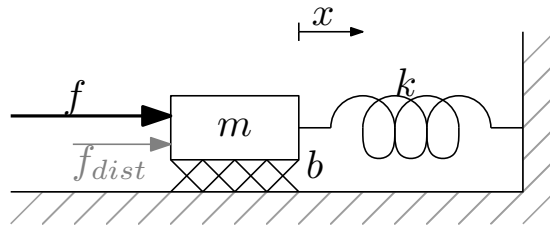

Figure 1: Damped spring-mass system with an actuator.
1. Consider a 1-DOF spring-mass system with friction (Fig. 1). We assume that the mass is $m = 2$, the spring constant equals $k = 18$, and the friction coefficient is given by $b = 12$. Thus, we can describe the system by the equation of motion: $2\ddot{x} + 12\dot{x} + 18x = f$.